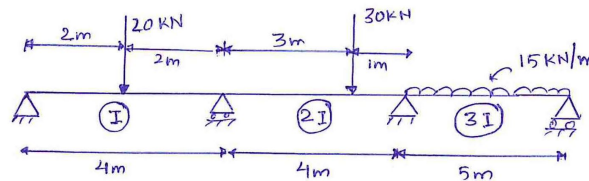

Figure 4
- (b) Analyze the continuous beam as shown in Figure 4 using Clapeyron's equation of three moment and draw bending moment diagram.